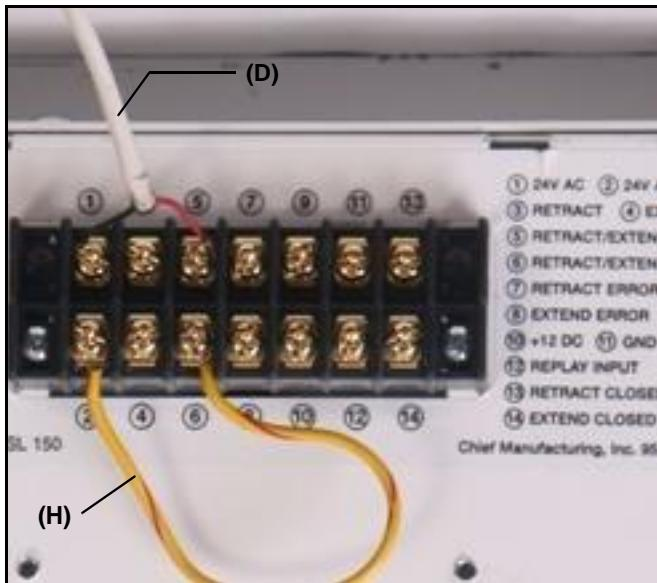

Figure 3
5. Place the jumper wire (H) on the contacts, and wire the push button assembly (D). (See Figure 3). Refer to Table 1: Wiring Table.
1. Unplug the SL151i's test power cord (J) (used for testing).
2. Remove the jumper wire and supplied push button wiring from the external terminal block. (See Figure 3)